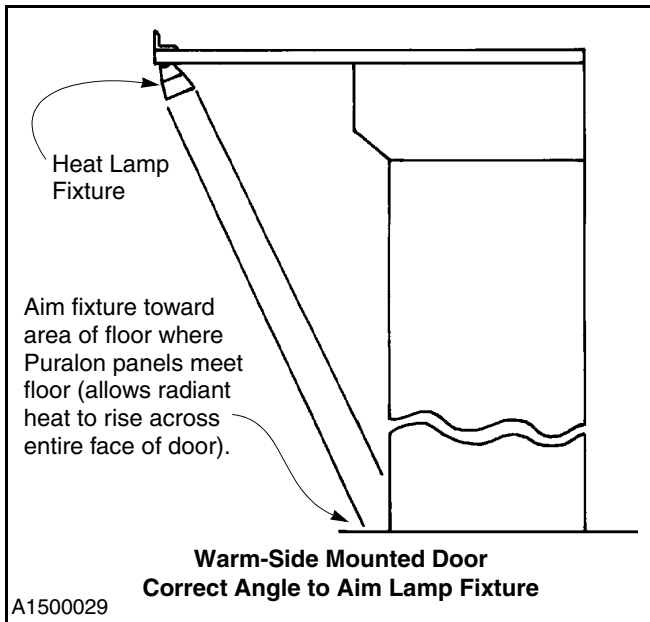
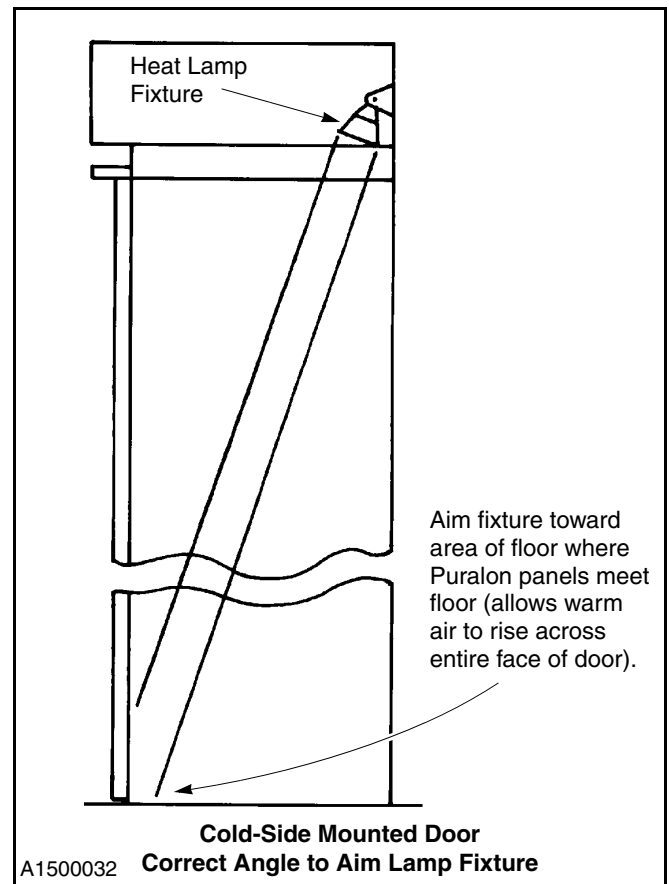
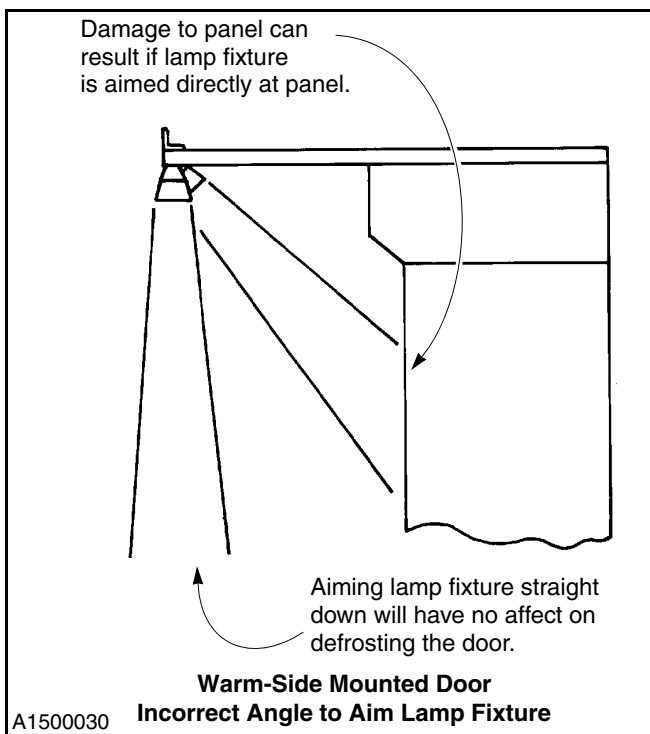
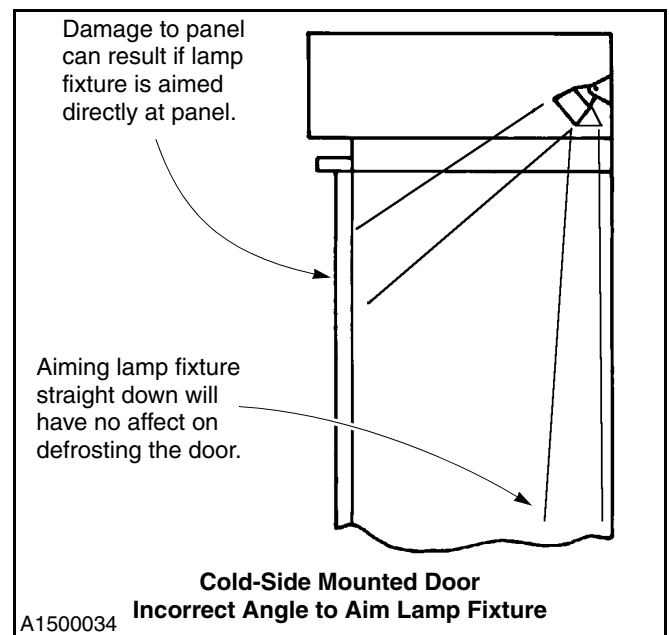

Figure 57
Figure 59
Figure 58
Figure 60
- Direct the heat lamp fixture(s) to aim at the area of the floor where the panels of the door meet the floor. (See Figure 57 through Figure 60.)
Figure 57 and Figure 59 show the correct method for aiming a lamp fixture. Figure 58 and Figure 60 show the incorrect method.